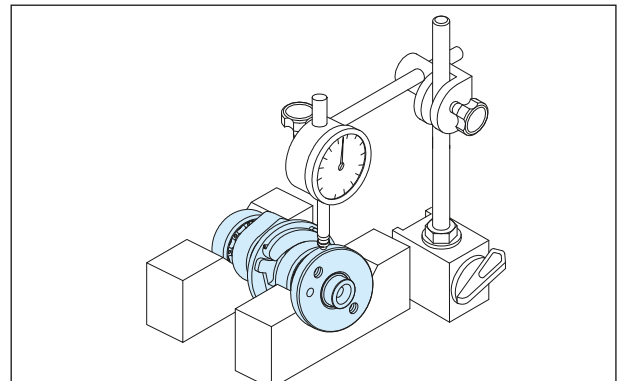

Fig. 3.116
- Measure the runout with a dial gauge. Replace the camshaft with a new one if the runout exceeds the limit. (Fig. 3.116)